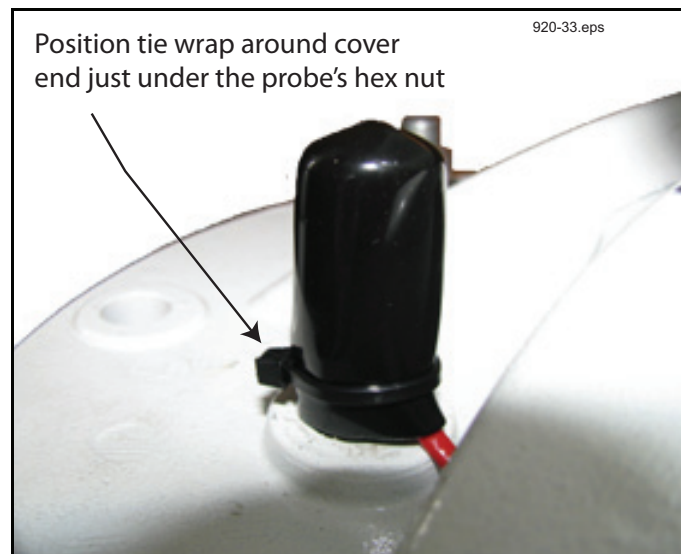

Figure 5. Positioning the tie wrap over the thermal probe's protective cover
2. Slide the cover over the bend of the cable and push it down over the probe's hex nut until it rests on the top of the CCVP. Get the tie wrap from the kit and position it around the end of the cover just under the probe's hex nut and tighten it (see Figure 5).